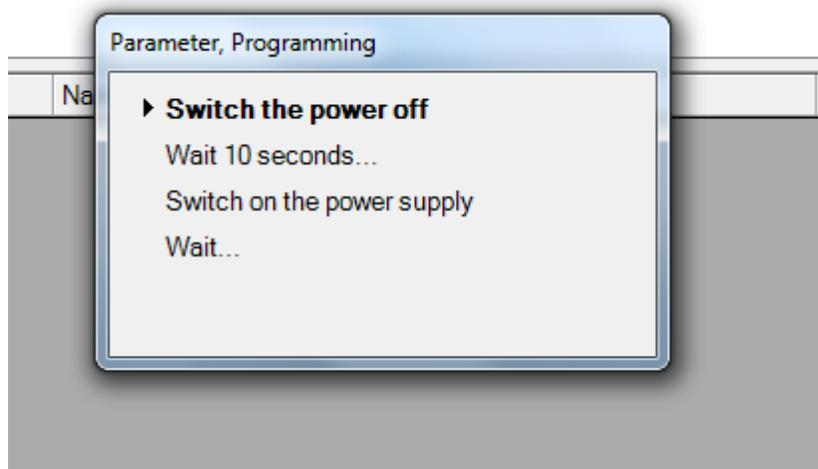

FIGURE 37
9. Execute the following command shown on your laptop screen (FIGURE 37).